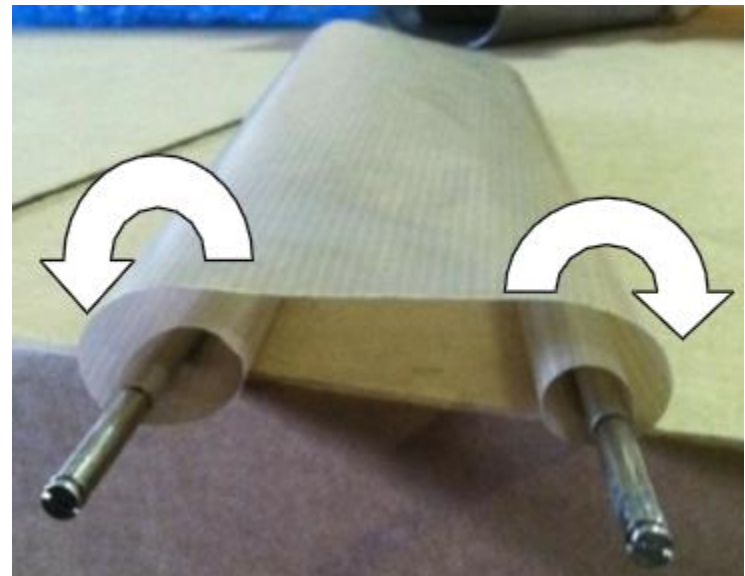

Figure 4-7
5. Repeat for the other end of the sheet. Be sure the Sheet wraps around the outside of both ends, See Figure 4-7.